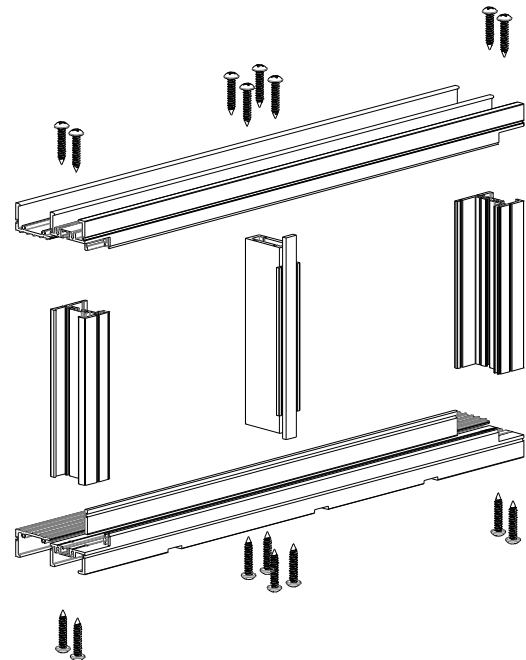

Figure 6:
1. Apply a compatible sealant to the corners of the frame. Assemble the frame with screws provided (Figure 6).
1. Install each full-length Fin, using #10 X 1" PHP Screw into pre-drilled holes at the head and sill (Figure 6).